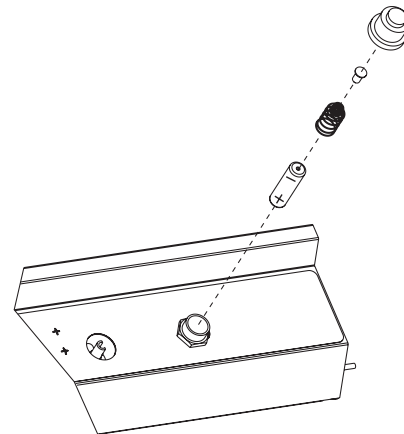

Figure 27
7. Re-attach the ignitor to the control panel, then tighten nut and insert AA battery, positive side down, and replace ignitor button. **See Figure 27.**